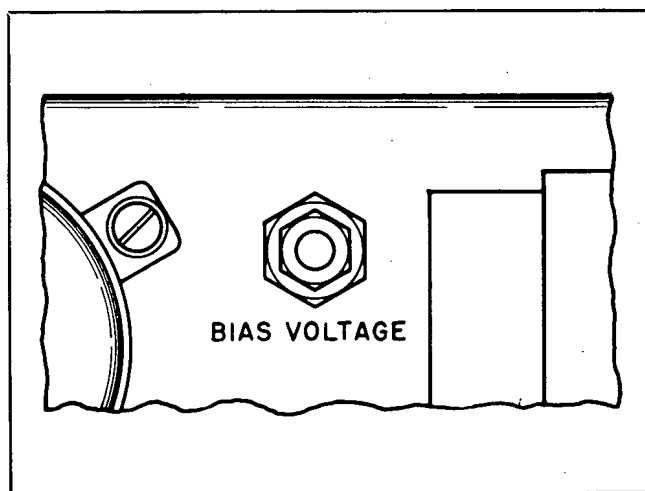

Figure 3-55. Bias Voltage Control on IFF Coordinator
(47) Adjust the ROTATION switch to the PPI-OR-EMERGENCY position. The PPI trace and the dials should rotate at approximately 7 rpm.
(48) If the speed of the slewing motor is fast or slow, it may be adjusted by changing the taps on transformer T-801. The wires connected to terminals 6 and 7 should be placed on smaller numbered terminals in the same order to increase the speed. They should be moved to higher numbers to decrease the speed. If the Indicator Console has been in use at some other installation and is being re-installed, this adjustment should be checked because the speed decreases as the dry disc rectifiers in the Bearing Indicator age.
(49) If the Range Scope does not show two sharp well defined lines when the CHALLENGE switch is operated, and the trouble cannot be corrected in the Range Scope, connect a vacuum tube voltmeter to the arm of the BIAS ADJUST Control R-944. The location of this control is shown in Fig. 3-55.